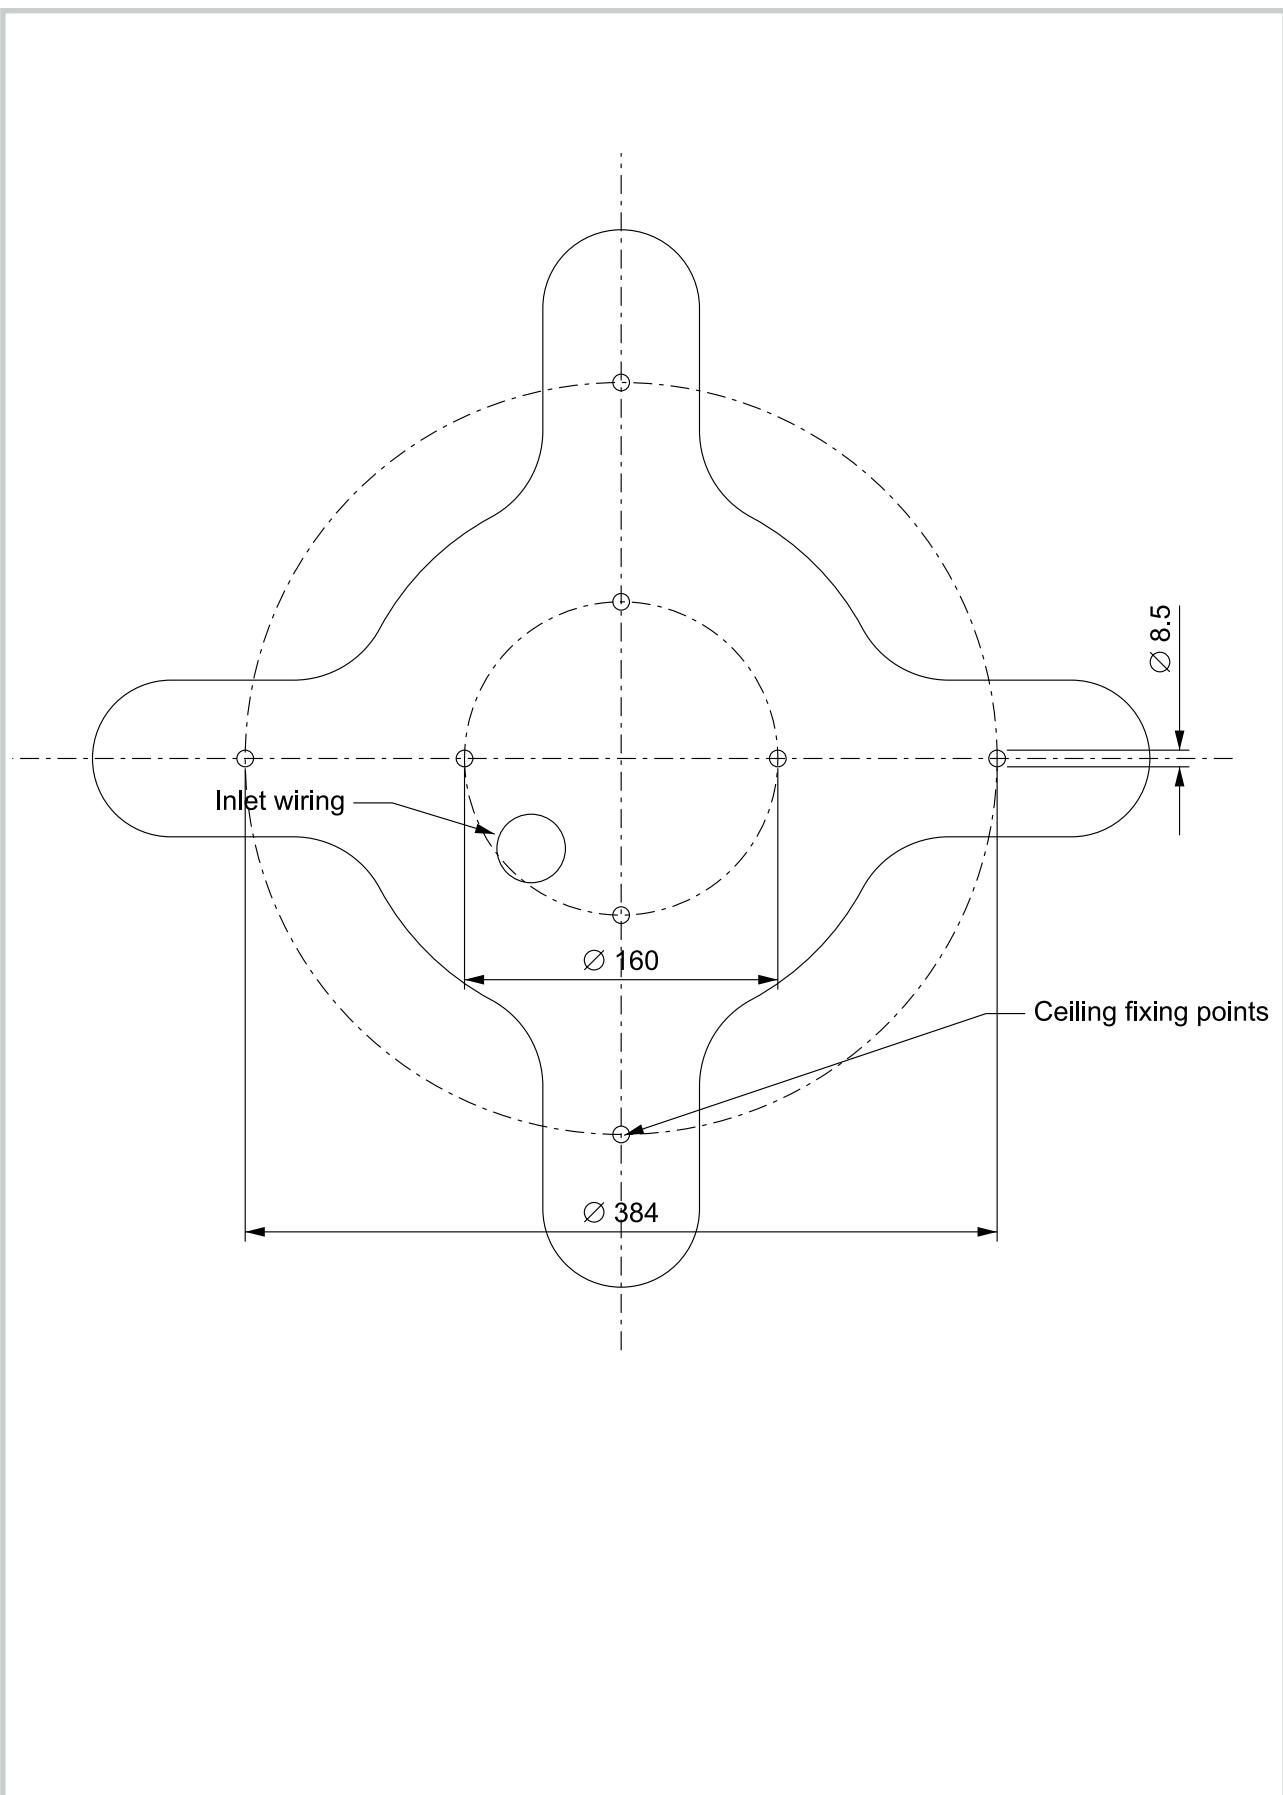

Fig.1
Svitare il dado H e sfilare l'anello G. (Fig.1)
- 1 Unscrew from pivot the metal final M and the washers L and I. Unscrew nhe dut H and take off the ring G.(Fig.1)